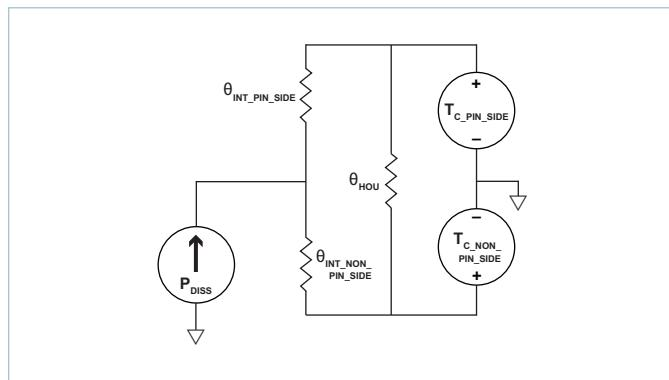
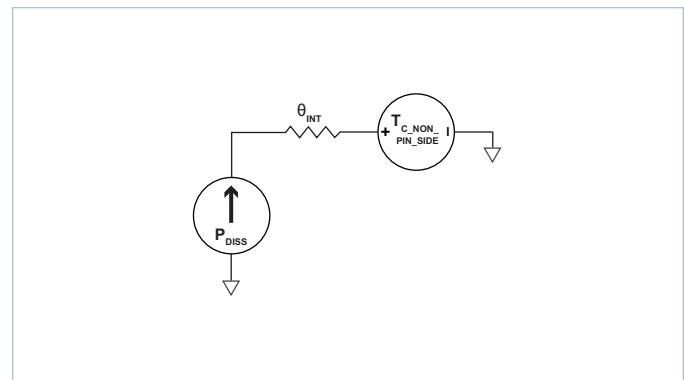

Figure 18 – Double sided cooling VIA thermal model
Figure 19 – Single-sided cooling VIA thermal model
The VIA package provides effective conduction cooling from either of the two module surfaces. Heat may be removed from the pin-side surface, the non-pin-side surface or both. The extent to which these two surfaces are cooled is a key component for determining the maximum power that can be processed by a DCM in a VIA package, as can be seen from specified thermal operating area on Page 4. Since the VIA package has a maximum internal temperature rating, it is necessary to estimate this internal temperature based on a system-level thermal solution. To this purpose, it is helpful to simplify the thermal solution into a roughly equivalent circuit where power dissipation is modeled as a current source, isothermal surface temperatures are represented as voltage sources and the thermal resistances are represented as resistors. Figure 18 shows the "thermal circuit" for the VIA package.
- Single side cooling: the model of Figure 18 can be simplified by calculating the parallel resistor network and using one simple thermal resistance number and the internal power dissipation curves; an example for non-pin side cooling only is shown in Figure 19.